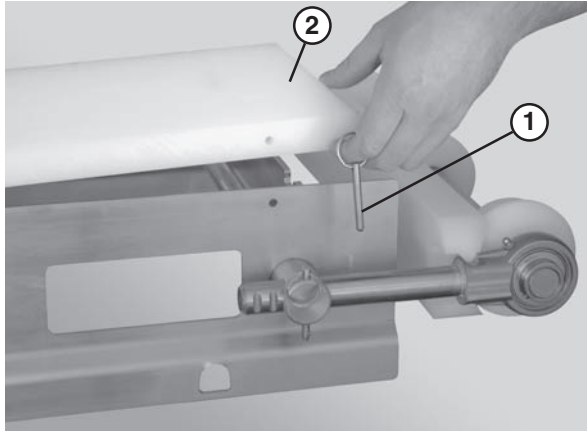

Figure 44
1. Remove the guides, if applicable, by removing the pull pins (Figure 44, item 1) that connect the guide (Figure 44, item 2) to the frame.